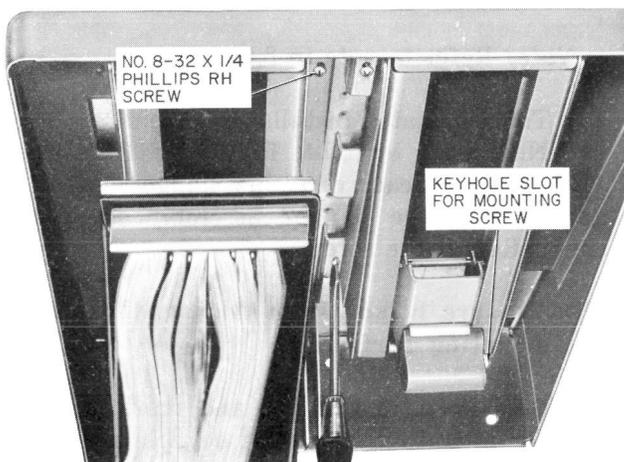

Fig. 6 — Installation of KS-20029 Directory Shelf
4.06 Install the shelf as follows: Refer to Fig. 6.
- (a) To facilitate installation, remove four No. 8-32 by 1/4 Phillips RH screws (Fig. 6) from each directory hanger assembly and remove the hanger assembly from the shelf. Retain the screws.